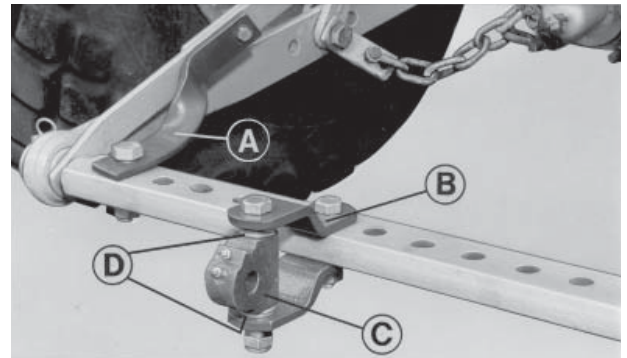

Fig 17
(Fig. 17). The tractor drawbar must be fixed. If it is a swivelling type, a bracket (A) must be fitted to prevent it from tipping up or down. Stabilisers must be fitted to the lower links of the tractor to prevent movement from side to side. Bolt the tractor hitch (B) to the tractor drawbar and tighten securely.
UNIT TRAILED GANG MOWER (Fig. 17)**